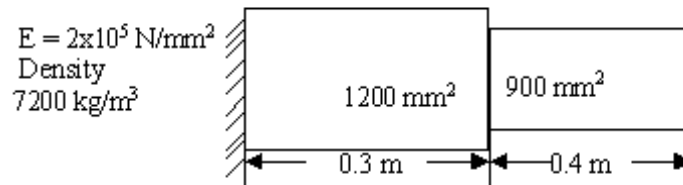

Figure 7
7. Consider the axial vibrations of a steel bar shown in the figure7: